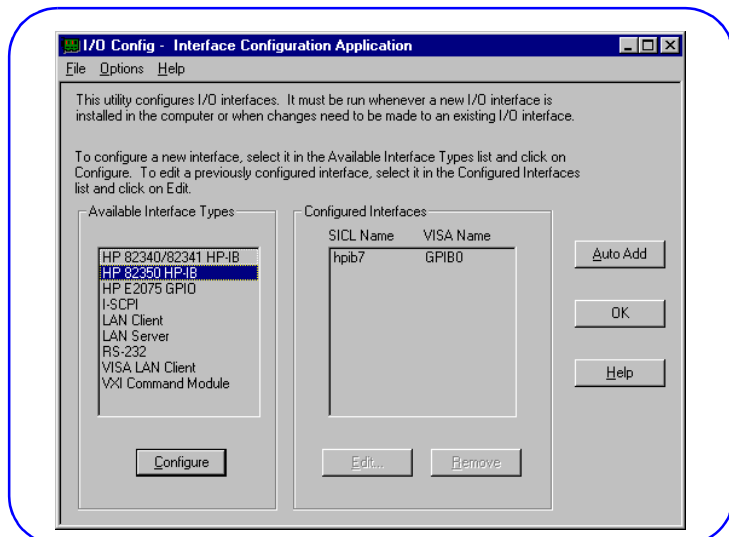

Figure 20. Typical I_O Config Utility Screen
- 7 When the **View Readme and Configure Interface** screen appears, be sure the *Configure interfaces* box is checked. (You can uncheck the *View Readme* box if desired.) Then, click *Next* to display the **I_O Config** screen (see Figure 20).